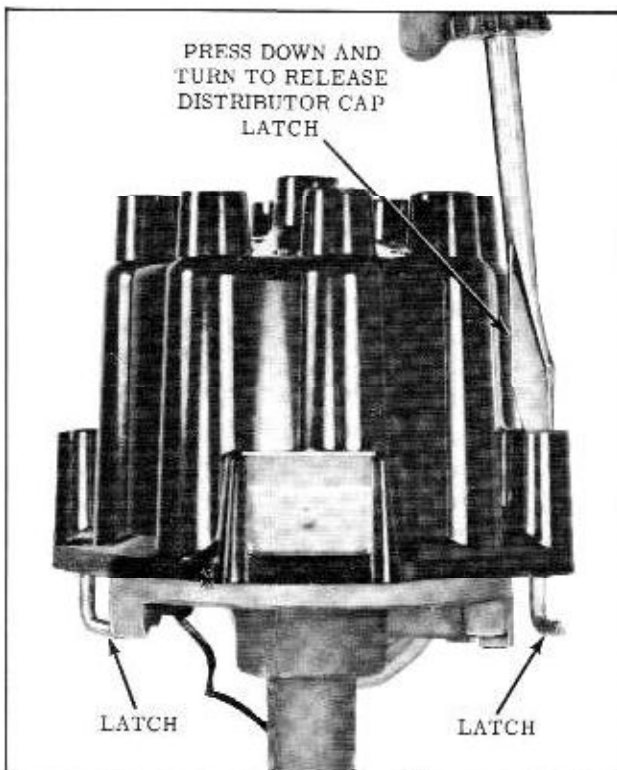

Fig. 13-61 Distributor Cap Removal
1. Remove distributor cap by pressing down on and turning latch as shown in Fig. 13-61.
2. Remove the distributor cap as shown in Fig. 13-61.